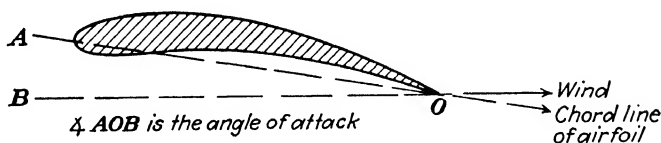

Fig. 111.
**A. Angle of Attack.** The angle of attack is the angle between the wind stream and the chord line of the airfoil. In Fig. 111,  $\angle AOB$  is the angle of attack.